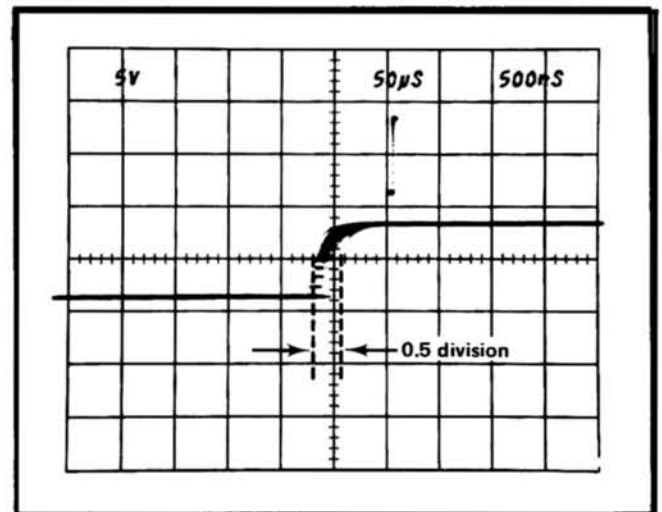

Fig. 2-15. Measuring pulse jitter.
**Example.** Assume that the horizontal movement is 0.5 division (see Fig. 2-15), and the B TIME/DIV switch setting is  $.5 \mu\text{s}$ .